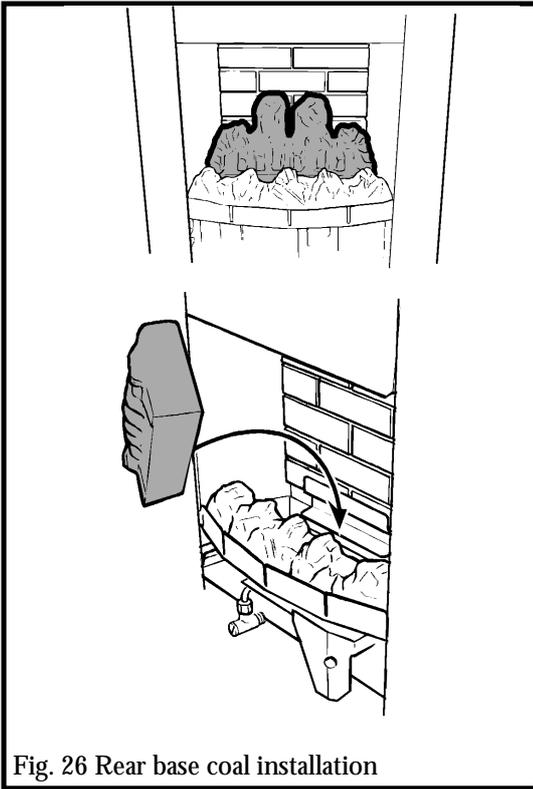

Fig. 26 Rear base coal installation
10.3 Place the rear base coal in the burner compartment behind the front coal. Its rear face should touch the rear ceramic wall (See figure 26)